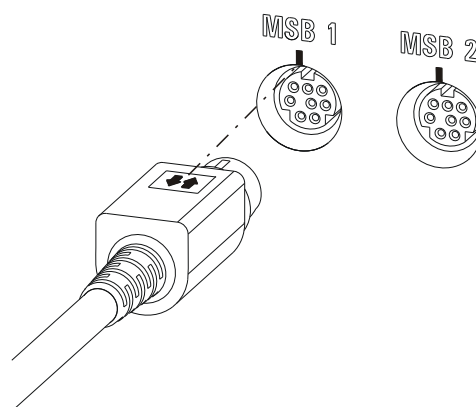

Figure 15 MSB connector
- When making the connection, take care to ensure that the flat part of the MSB plug marked with arrows is pointing in the direction of the marking on the MSB connector (see figure 15, page 23).